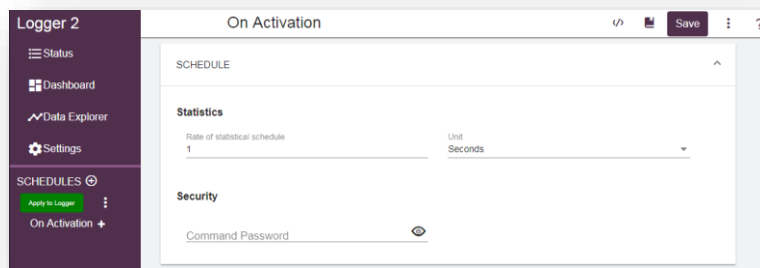
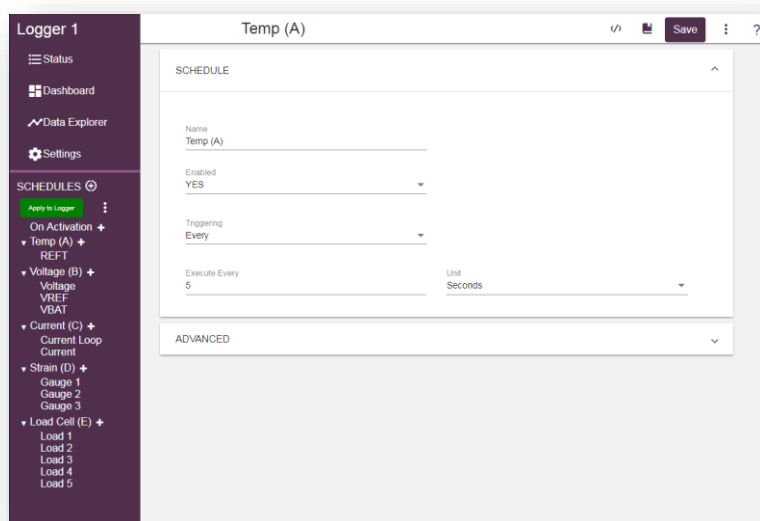

Figure 28: Fresh dEX Programming Template
Figure 29: dataTaker Program Example in dEX NG
Job Builder is located within *Logger Page(s)* (P9), after *Settings* (P10) menu. If the logger is being programmed for the first time, that interface will show the existing program template stored by dEX NG. If there is no stored template, it will show On Activation (*Figure 28 (P25)*). Otherwise dEX NG will show the existing program (*Figure 29 (P25)*).
- The top level there are the schedules, In *Figure 29* six schedules have been defined: the built-in **On Activation** entry represents the immediate schedule, and is followed by five user schedules, A, B, C, D and E (a.k.a "Temp", "Voltage", "Current", "Strain" and "Load Cell").